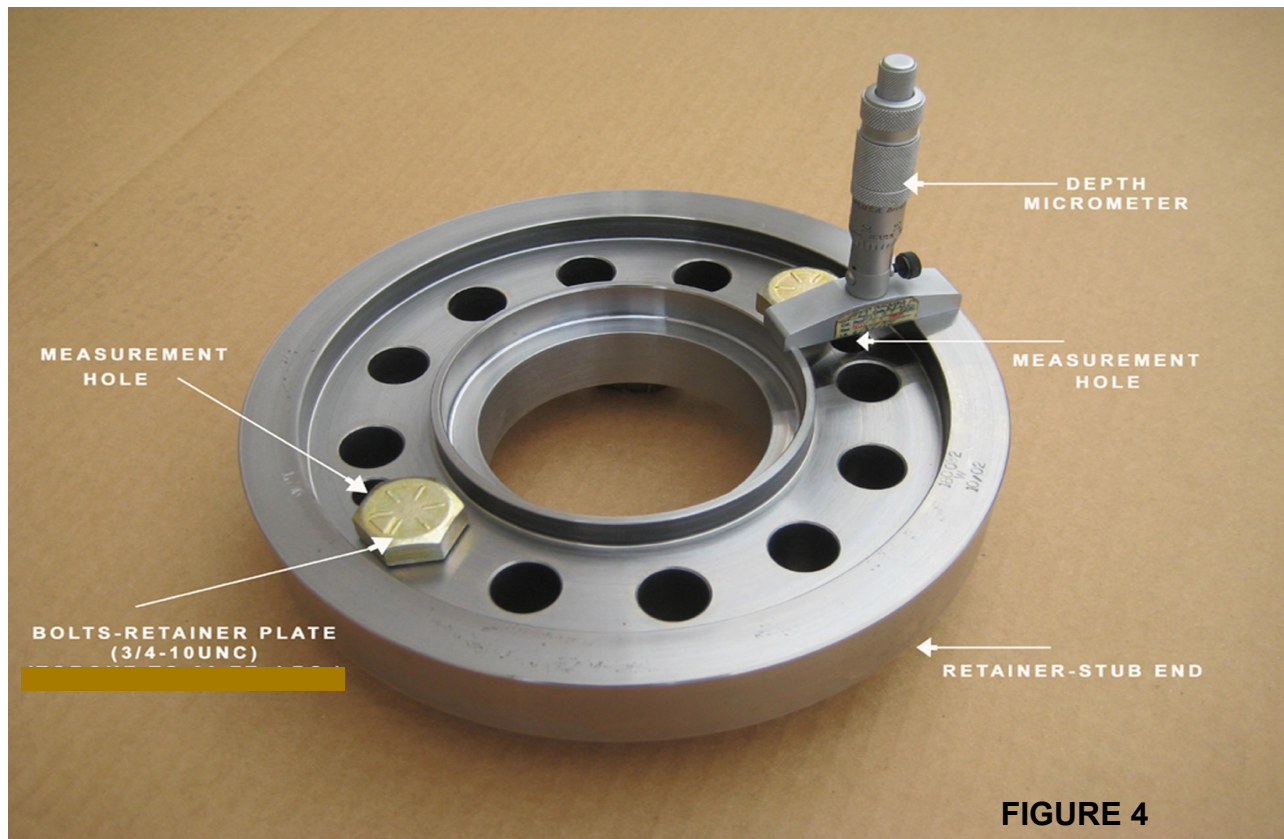
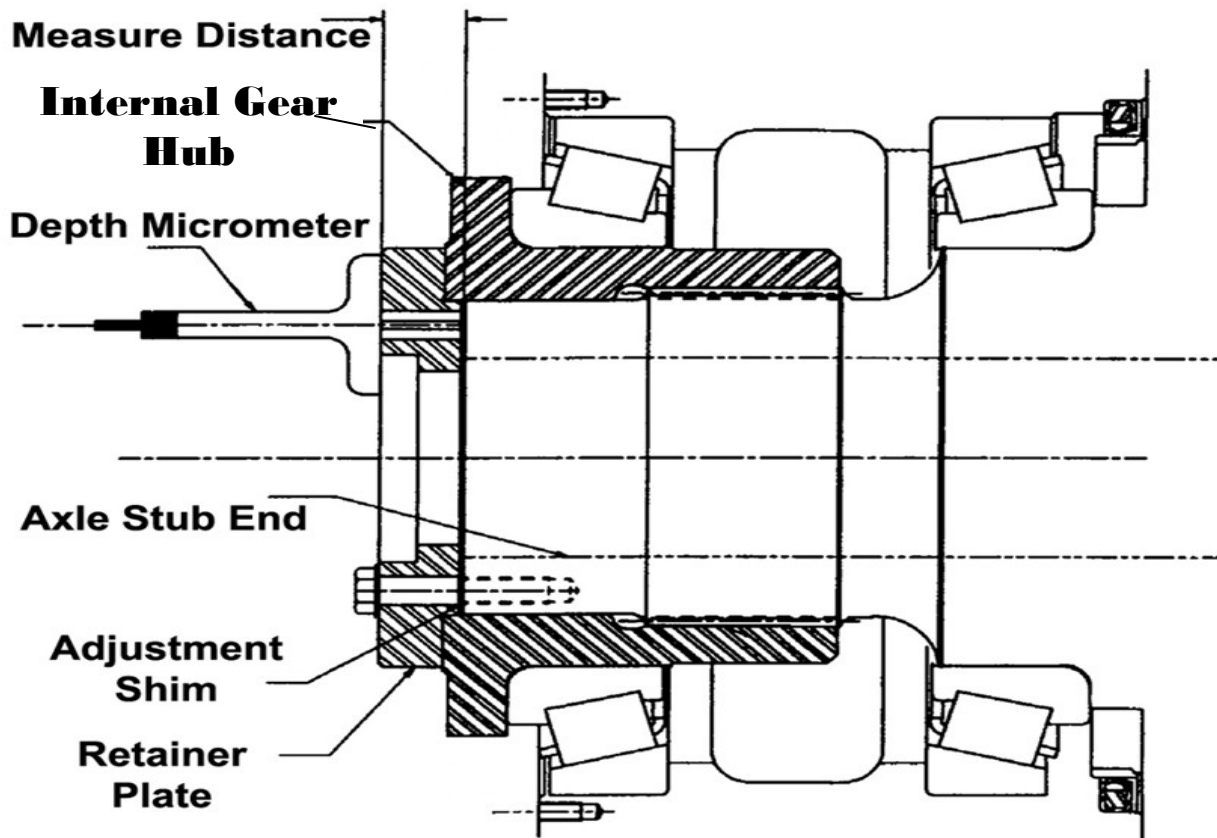

FIGURE 4
FIGURE 5
4. Install retainer plate without shims using two retainer plate bolts, (3/4-10UNC), spaced 180° apart and next to the measurement holes. See **FIGURE 4 (PAGE 10)**. Tighten the bolts until retainer plate is snug against internal gear hub and looseness is taken out of the bearings but the bolts are not tight.
2. With wheel assembly positioned on stub end while being supported on the underneath outer edge, install wheel bearing retainer plate without shims, using two retainer plate bolts, (3/4-10UNC), spaced 180° apart and next to the measurement holes. See **(Figure 4)**. Do not lube the bolt threads, install the bolts clean and dry. All threads in the stub end should be clean and dry. Tighten the bolts until retainer plate is snug against internal gear hub and looseness is taken out of the bearings but the bolts are not tight.
7. Using a depth micrometer, measure the total distance from the outer surface of the retainer plate to the spindle end, through each of the two retainer plate measurement holes and average the two measurements and record. See (**Figure 4, PAGE 10 and Figure 5, PAGE 11**).